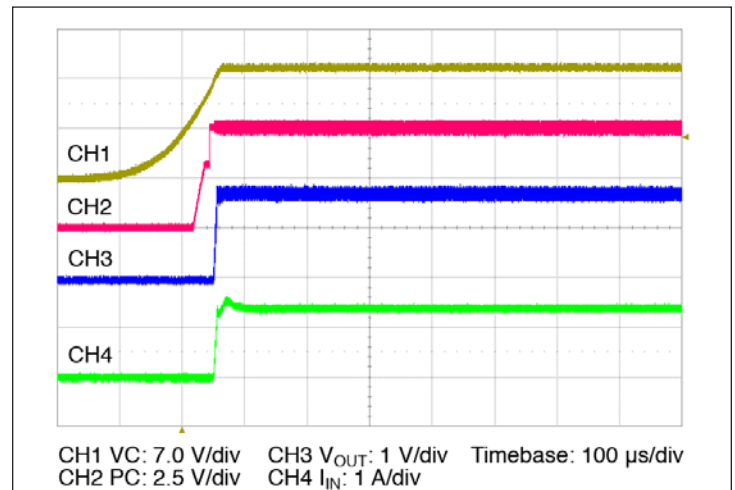

Figure 14 — Start up from application of  $V_C$ ;  $V_{IN}$  pre-applied
- Stand Alone Operation (VC applied after VIN): In this case the module output will begin to rise upon the application of the VC voltage (See Figure 14). The Adaptive Soft Start circuit (See Section 10) may vary the output rate of rise in order to limit the inrush current to its maximum level. When starting into high capacitance, or a short, the output current will be limited for a maximum of 900 µsec. After this period, the adaptive soft start circuit will time out and the module may shut down. No restart will be attempted until VC is re-applied, or PC is toggled. The maximum output capacitance is limited to 1500 µF in this mode of operation to ensure a successful start.